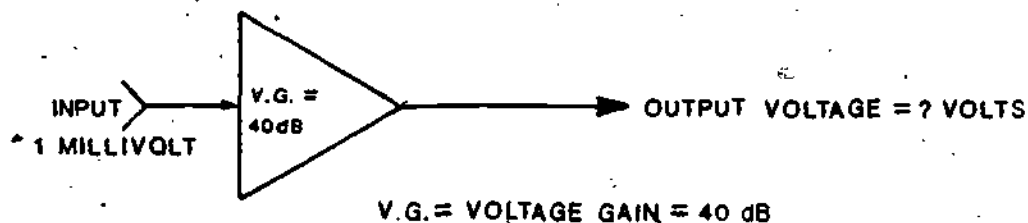

Figure 16
22. You have learned to convert voltage and power gain ratios to decibels, and to combine decibels to find the total voltage and power gain in some simple circuits. One other type of problem is quite common. Suppose you are given an amplifier input in terms of voltage or power, and are also given the amplifier voltage or power gain expressed in decibels. Your problem is to find the amplifier voltage output or power output. To make it easy, let's first solve a problem for voltage output. Figure 16 shows a diagram of a typical problem involving voltage output.